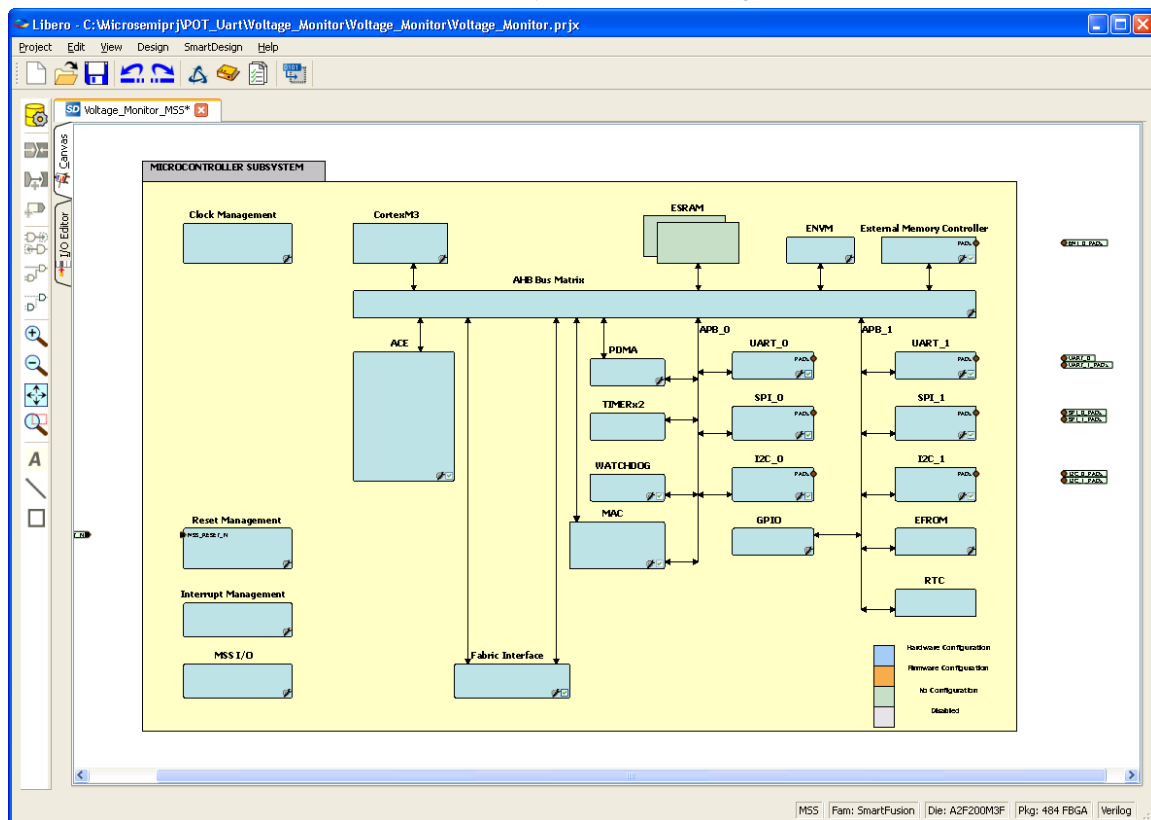

Figure 4 · MSS in the SmartDesign Canvas
8. Click **OK**. The MSS canvas is displayed, as shown in Figure 4 . .